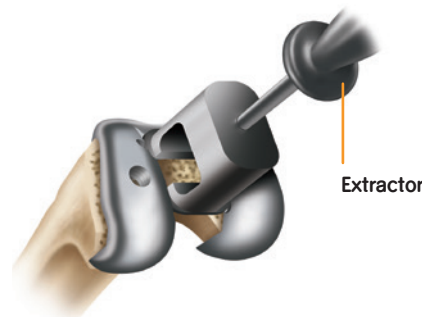

Figure 28
- 4 Attach the end of the universal extractor to the femoral trial (Figure 28). Remove the femoral trial.